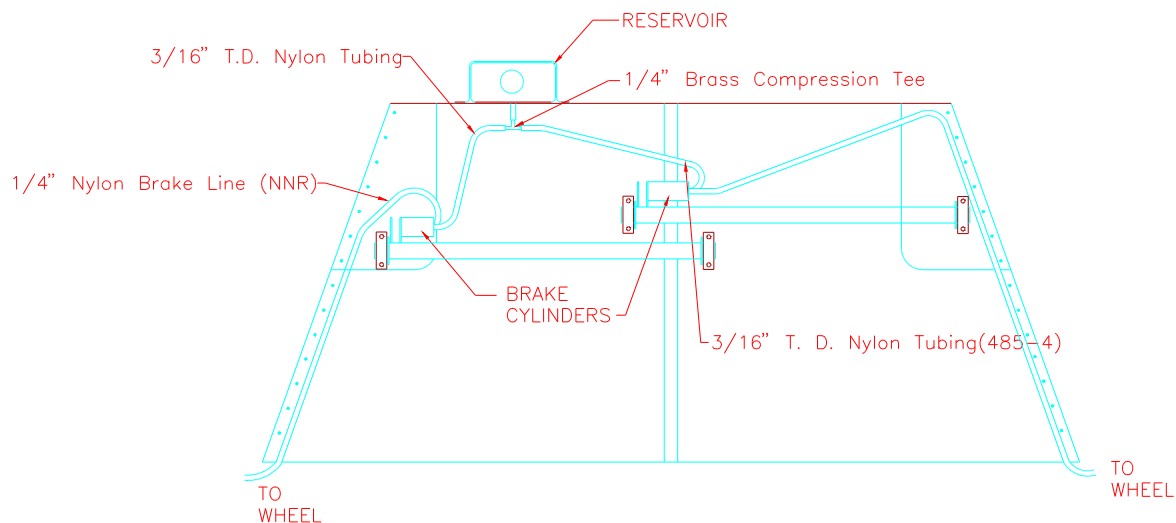

Figure 15.6.1
Line routing and reservoir location may vary. Reservoir is shown on the top firewall, but may be placed as preferred, provided that adequate gravity flow and access for filling and inspection is maintained. Figure 15.6.1.
2) For brake line routing see Figure 15.6.1. Use high pressure plastic hose (NNR-4-035) from the master cylinder to the wheel. Clamp using Brass Elbow Fittings (269-4A) at both locations.